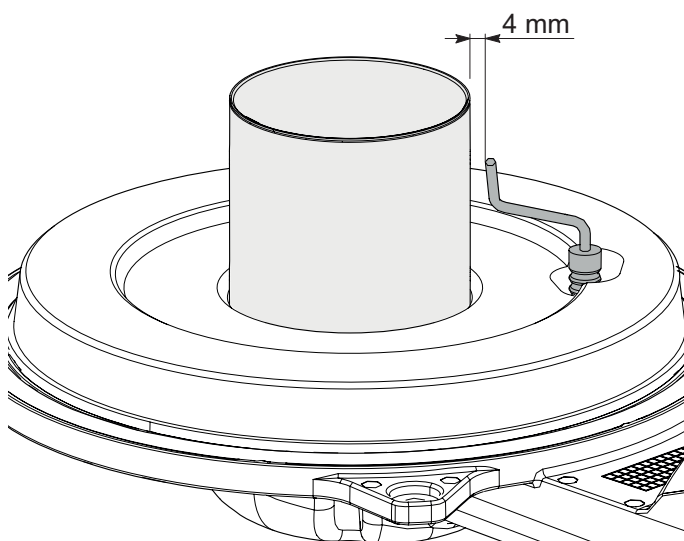

Figure 15.6
- 1 Check for the correct distance between the metallic edge of the electrode and burner (see Figure 15.6).
The electrode in Figure 15.6 also functions as a sensor for the correct drainage of the condensate.